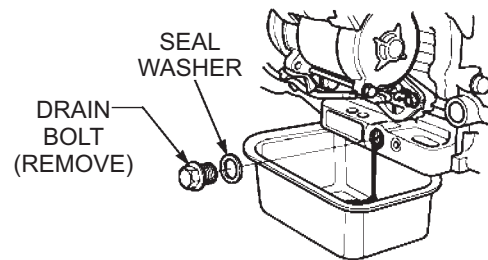

Figure 22. Draining Engine Oil
1. Remove the oil drain bolt and sealing washer and allow the oil to drain into a suitable container (Figure 22).